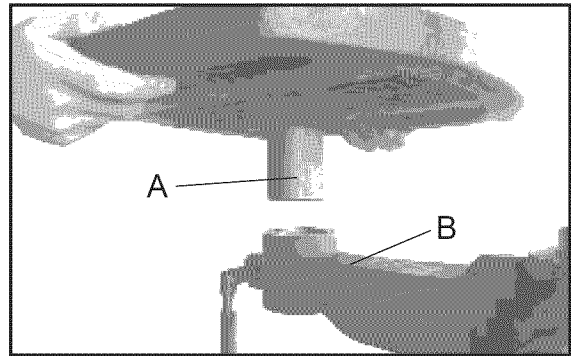

Figure 11
1. Install the locking lever onto the table support bracket then insert the table post (A-Fig. 11) into the table support bracket (B-Fig.11) as shown. Tighten the locking lever.